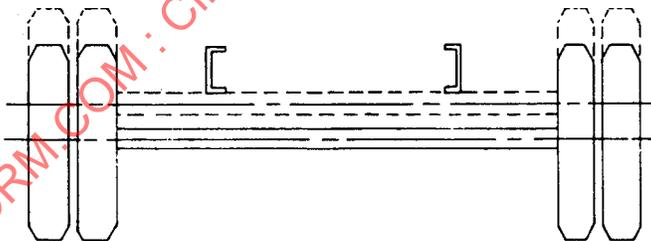

FIGURE 5—SOLID AXLE REAR SUSPENSION TRAVEL—TWO WHEEL JOUNCE
- 5.2.2.1 *Two Wheel Jounce*—Analysis of tire to body clearances to be made through complete range of rear axle travel, full rebound to full jounce (metal to metal) position. See Figure 5.